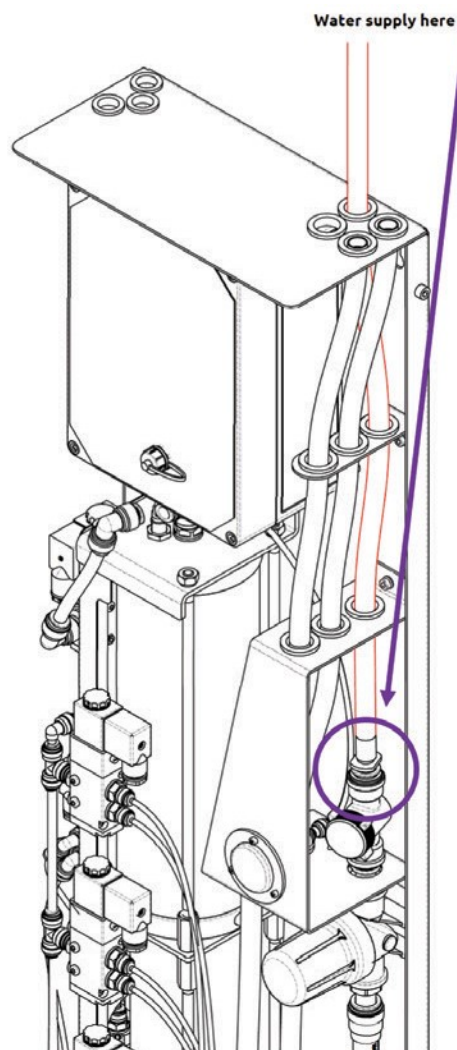

Figure 88: Water supply connection
2. Connect Water supply the prepared water tap (Figure 88).